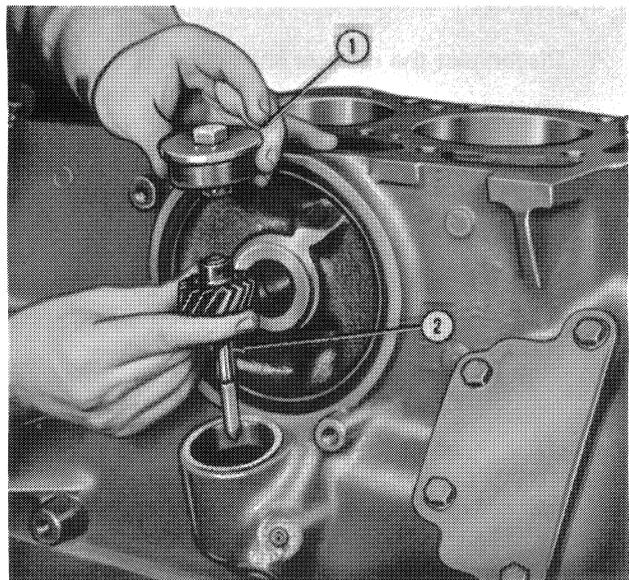

Figure 30
3. Remove the engine oil filter, and oil drain shield when installed to gain access to the oil pump drive gear and shaft cover, Figure 30. Remove the cover and extract the drive gear and shaft.
3. Install the pump drive gear and shaft, Figure 30. Install a new gear stop gasket and install the gear stop. Install the drain shield.